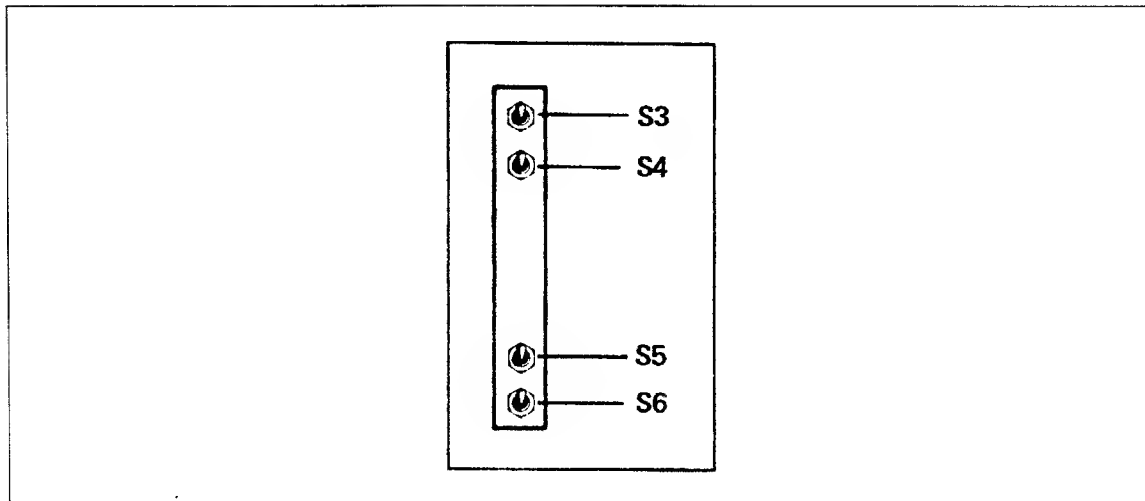

Figure G-6. Switch Numbering Scheme for Models 845 and 855 Without Memory Upgrade Option
4. If all of the CM reconfiguration switches (refer to figure G-6 for models 845 and 855 and to G-8 for model 990 without the memory upgrade option) are centered, reset them to the position shown in the Reconfiguration Setting Switch Number column and deadstart. If the switches are not centered before the attempt to reconfigure, additional reconfiguration is not recommended.